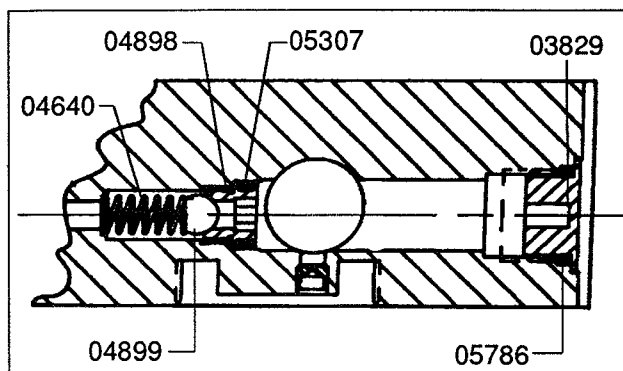

Figure 18
11.0 ALARM CHECK VALVE DISASSEMBLY/REASSEMBLY - REAR OF MICROBLENDER (FIGURE 18)